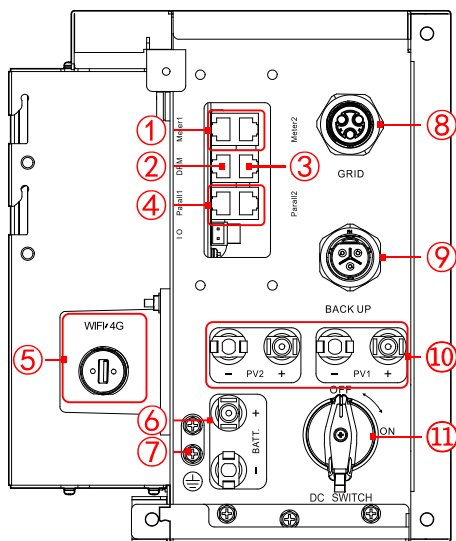

Figure2-2 Inverter structure layout diagram
The external terminals and switch of inverter as shown in Figure2-2.
DC switch (as shown in the ⑪ of Figure2-2) is the connection switch between inverter and PV array.